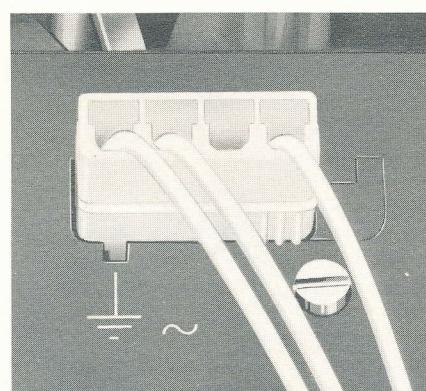

Fig. 3
B. No. 209 458, AMP-No. 42 859 / 1 (fig. 3)